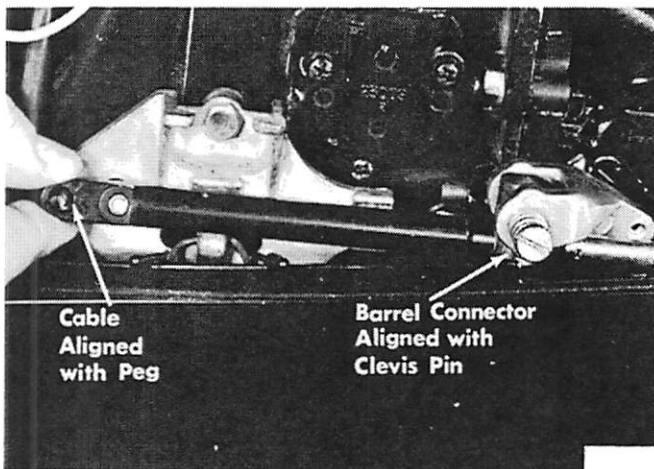

Figure 1. Adjusting Barrel Connector on Shift Cable - 1967
3. With motor in forward gear, pass cable under shift lever clevis. Adjust brass barrel connector on cable so that hole in barrel aligns with hole in clevis and hole in cable end aligns with peg on shift cable end anchor bracket. (Figure 1 or 2)